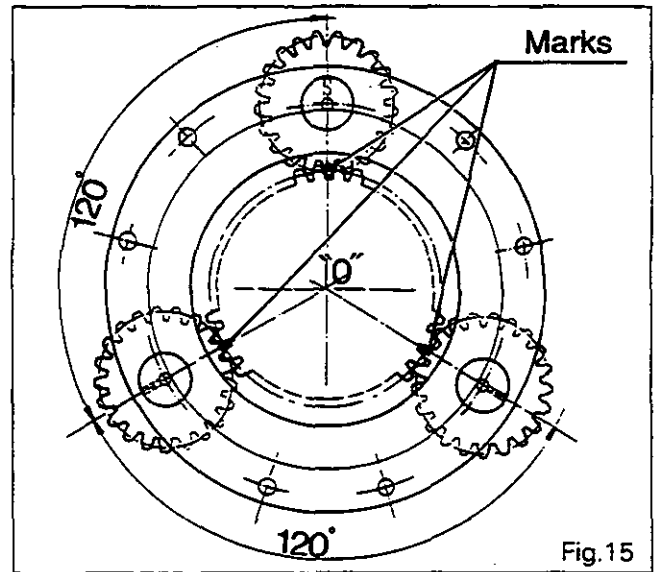

Fig.15
N.B.: The marks (punch marks) on the three planetary gears must line up with the centre on line spaced 120° apart, as shown in Fig.15.